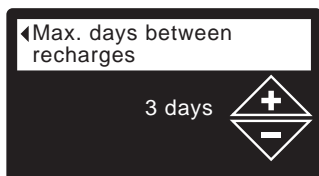

FIG. 50
5. Press the SELECT (O) button to display the Max. days between recharges screen (See Figure 50).